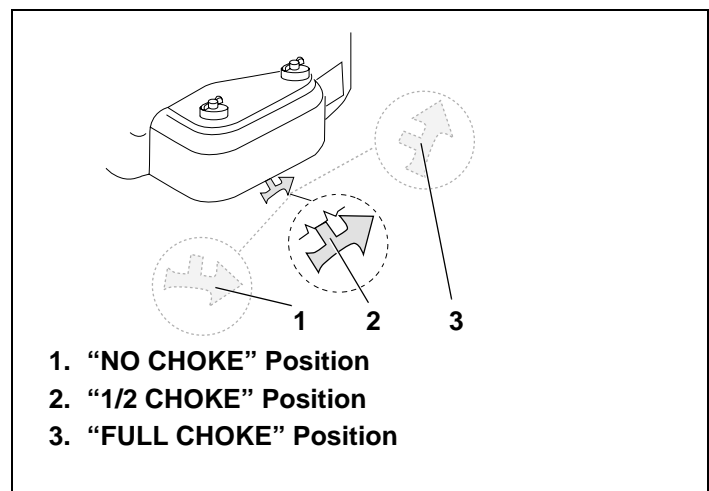

Figure 12. Engine Mounted Choke Lever
*Generator and Water Pump applications may have the choke lever mounted on the engine. See Figure 12.*